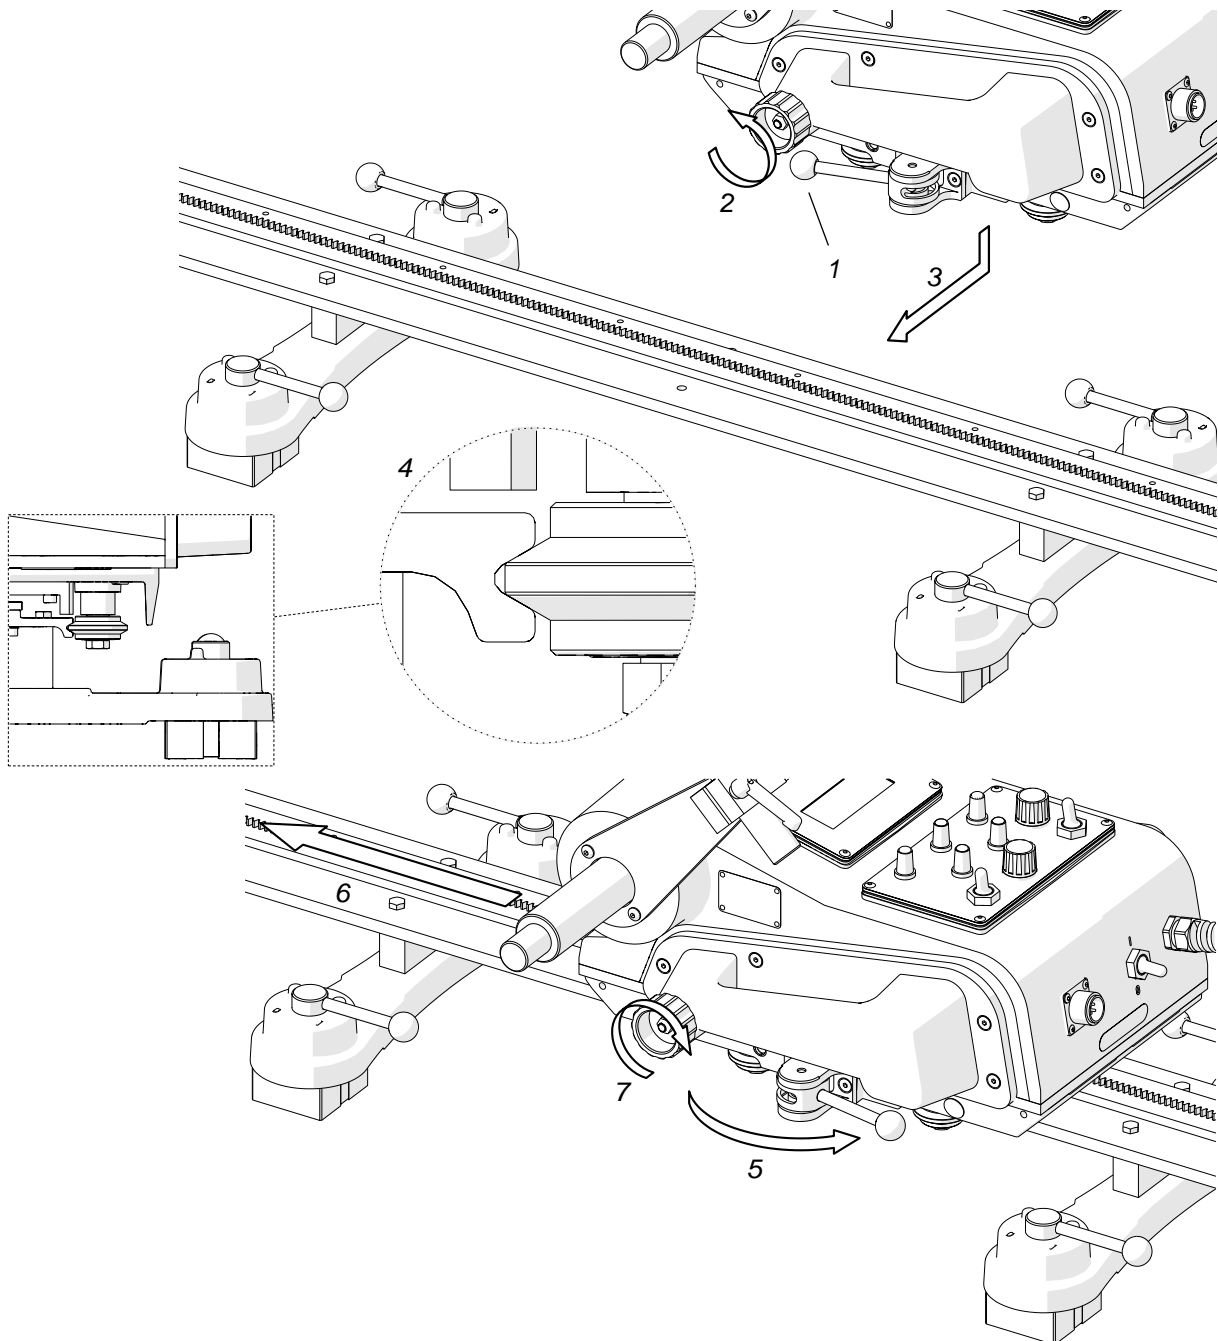

Fig. 6. Positioning the carriage on the track
Set the power switch, arc ignition switch, and travel direction switch to the position 'O'. Next, with the pressing lever in the position OFF (1, Fig. 6) loosen the drive clutch knob fully (2), and then set the carriage on the track (3) in such a way to position the back rollers in the groove (4).